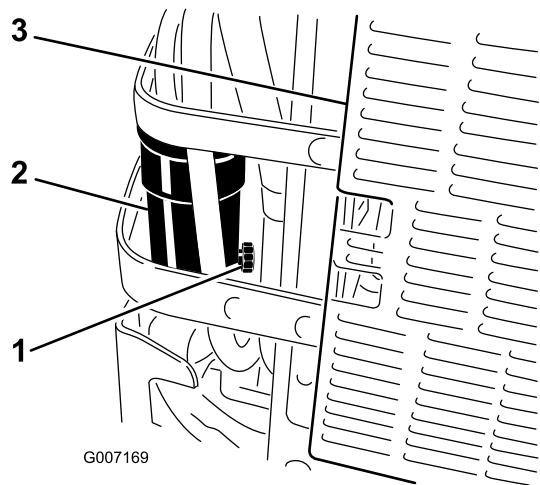

Figure 41
6. Open the drain valve on the water separator approximately one turn to allow water and other contaminants to drain (Figure 41).
7. Close the drain valve when only diesel fuel comes out (Figure 41).